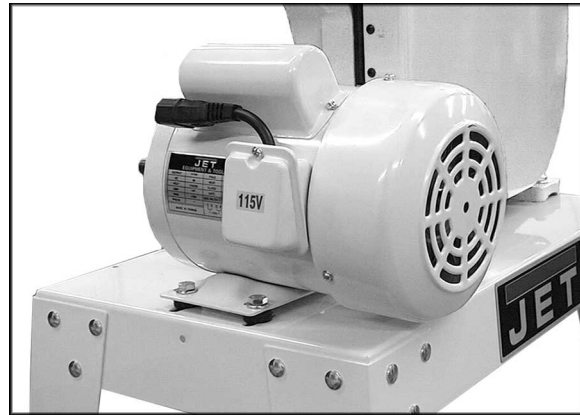
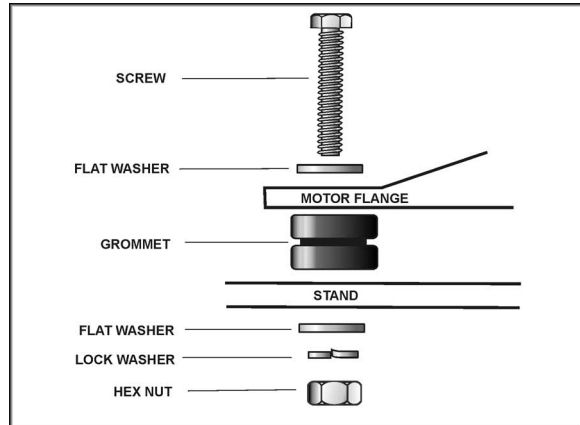

Figure 4
Figure 5
- Place motor over rubber grommets and fasten to stand top with four hex cap screws, eight flat washers, four lock washers, and four hex nuts, as shown in item C, page 7. See Figure 4. The arrangement of these fasteners is shown in Figure 5. Do not tighten at this time.